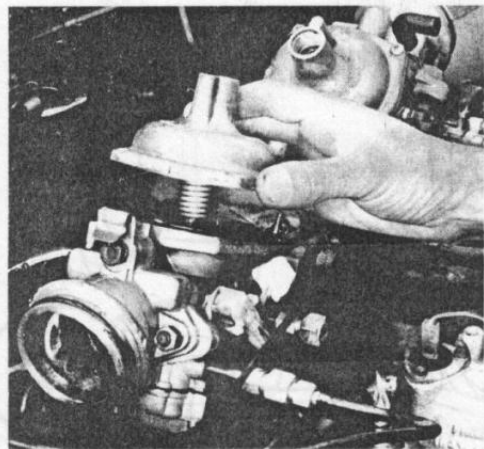

FIG. 64
- Remove both carburettor diaphragm chambers with piston, ensuring that one is marked for correct original re-assembly. Fig. 64.